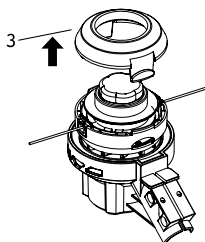

FIG. 12
2. While pressing both spool locking buttons, pull the spool cap (3) out of the spool housing (Fig. 12).